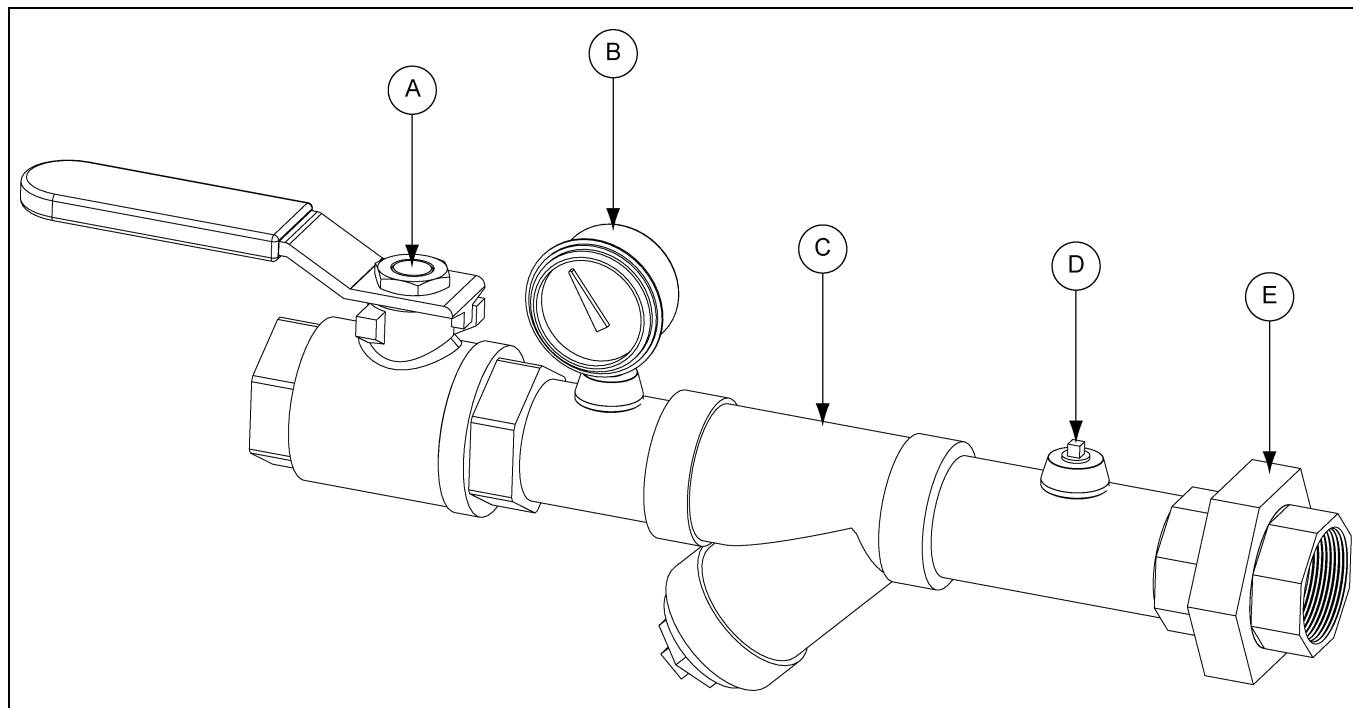

Figure 3B
1. Pressure from supply read at inlet gauge. (See Figure 3B on Page 22.)